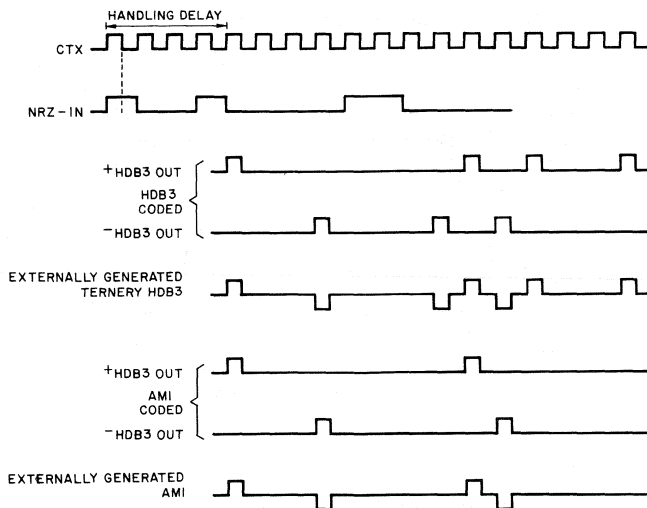
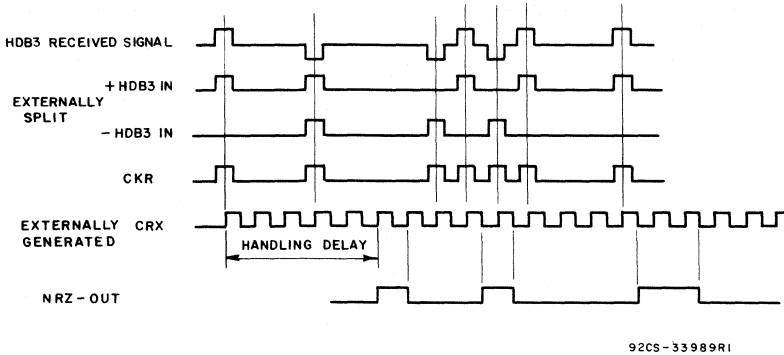
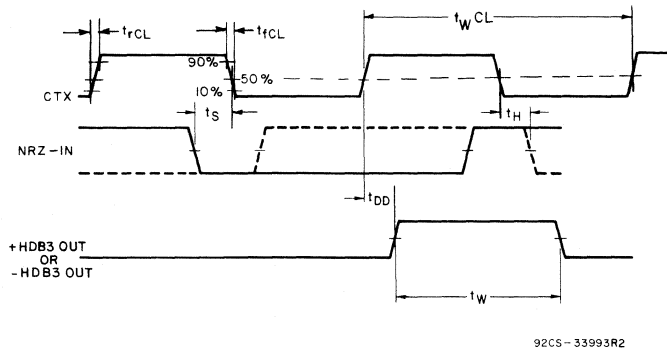
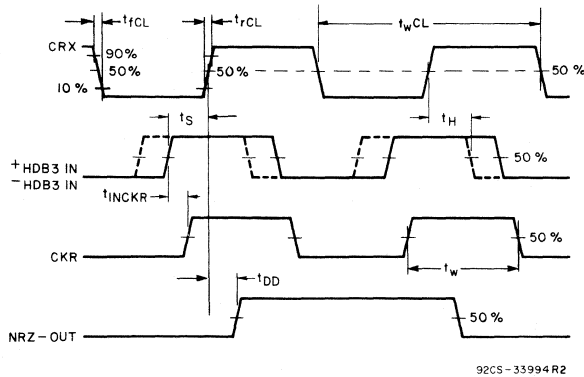

Fig. 2 - Transmitter coder operation timing waveforms - NRZ to HDB3/AMI coding.
Fig. 3 - Receiver decoder operation timing waveforms - HDB3 to NRZ decoding.
Fig. 4 - Transmitter coder timing waveforms.
Fig. 5 - Input requirements and output characteristics.
* See Fig. 4
§ See Fig. 5
§ See Fig. 5 * See Fig. 4 § See Fig. 2 # See Fig. 3
Transmitter Coder (See Fig. 2)
Receiver Decoder (See Fig. 3)
The CD22103A is designed to code and decode HDB3 signals which are coded as binary digital signals (NRZ-IN) and (+ HDB3 IN, -HDB3 IN), accompanied by sampling clocks (CTX) and (CRX). The two binary coded HDB3 outputs, (+ HDB3 OUT, -HDB3 OUT) may be externally mixed to create the ternary HDB3 signals (See Fig. 2).